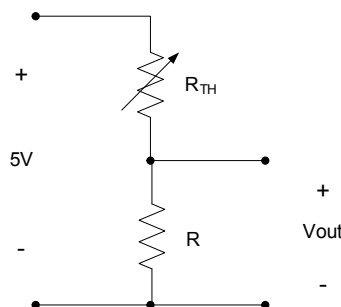

Figure 2. Temperature measurement circuit schematic.
Thermistors are classified as NTC (Negative Temperature Coefficient) or PTC (Positive Temperature Coefficient) depending on whether their resistance decreases or increases with temperature. Thermistor specifications also include their nominal resistance at some temperature. The thermocouple with the temperature-resistance curve shown in Figure 2 is specified as an “NTC 10K Ω @ 25°C” thermistor. Additional information about thermistors can be found in the backup information provided as a companion document on to this lab.
Our design criteria are as follows: Design a circuit like that shown in Figure 2, containing a thermistor as one of the resistances, which satisfies the following specifications:
In the circuit of Figure 2, the resistance R_{TH} is the variable resistance of the thermistor. (The arrow through the resistor symbol typically means that the resistance is not necessarily constant.) The voltage v_{out} is the voltage that we will use to indicate temperature. The 5V input voltage is applied across the two resistors as shown. The design problem is to choose a value for R so that v_{out} increases by a minimum of 0.5V over a temperature range of 25°C to 37°C. To do this,
1. Analyze the circuit of Figure 2 to determine v_{out} as a function of R_{TH} and R .